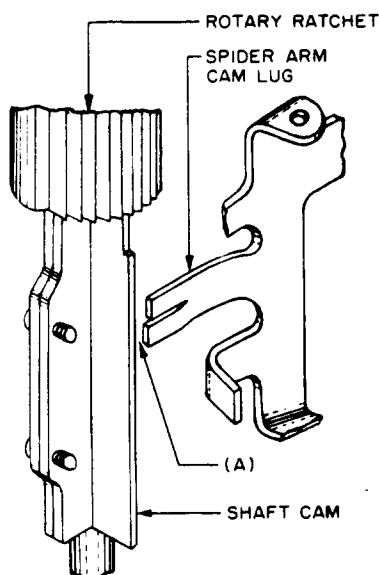

Fig. 5 - Relationship of the Spider Arm Cam Lug and the Shaft Cam
2.19 Clearance Between Spider Arm Cam Lug and Shaft Cam: Fig. 5 (A) — With the shaft up on any level and cut in one step, there shall just be perceptible clearance between the spider arm cam lug and the shaft cam.